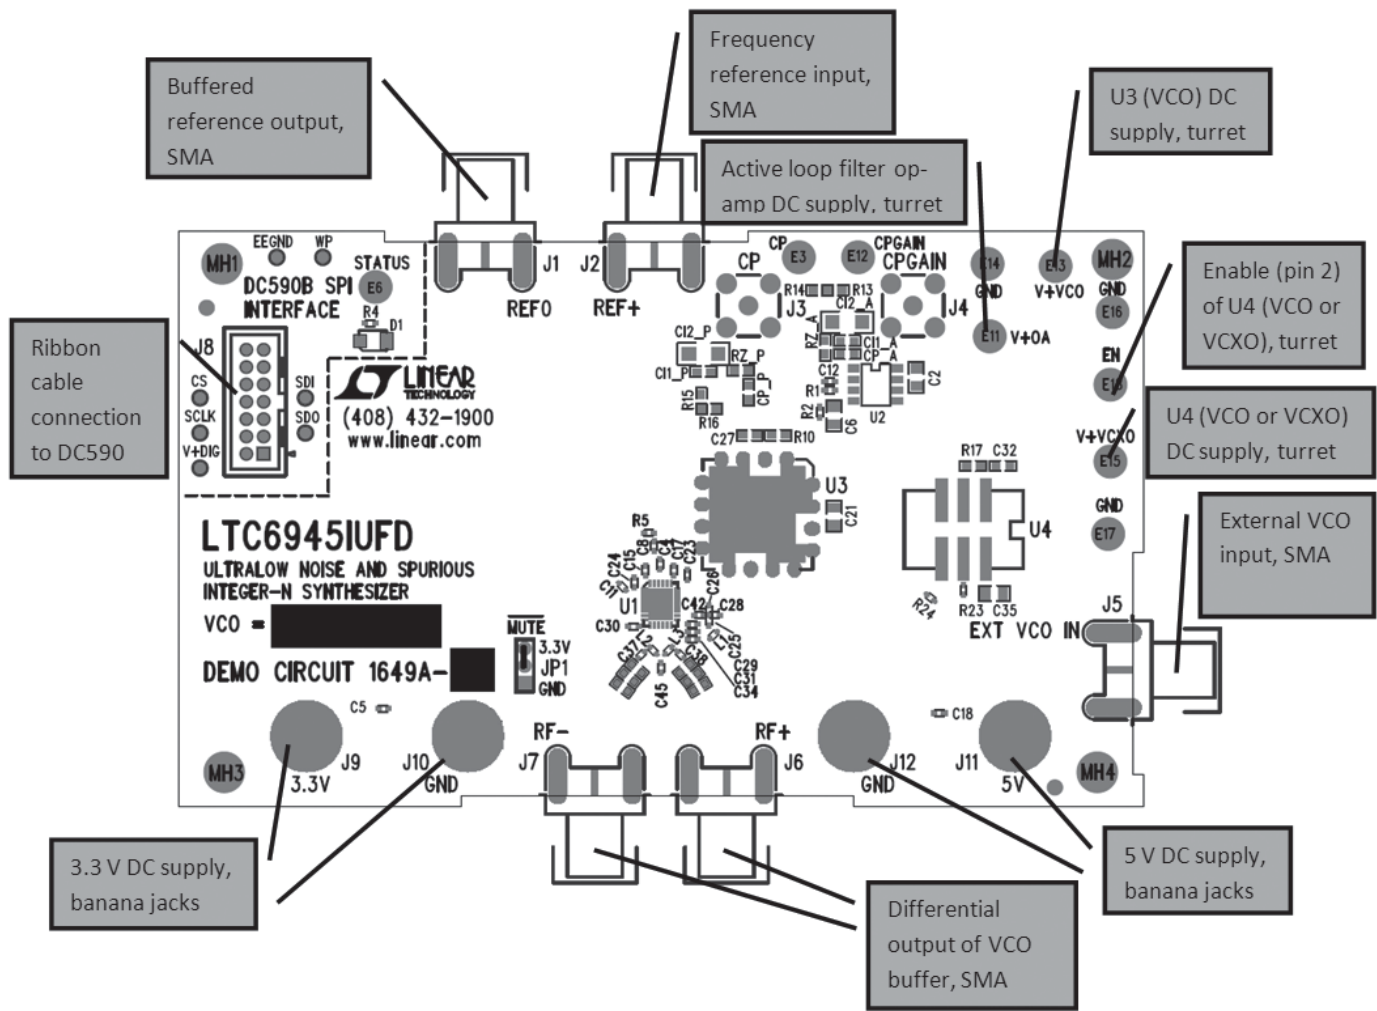

Figure 1. DC1649A Inputs and Outputs
1. Connect an appropriate reference frequency source (at J2) and signal analyzers (at J6 and/or J7) using the SMA connectors (see Figure 1 and the Typical DC1649A Requirements and Characteristics table).
3. Connect the GND, 3.3V, and 5V banana jacks and the “V+VCO” turret to a power supply and apply power (see Figure 1 and the Typical DC1649A Requirements and Characteristics table).